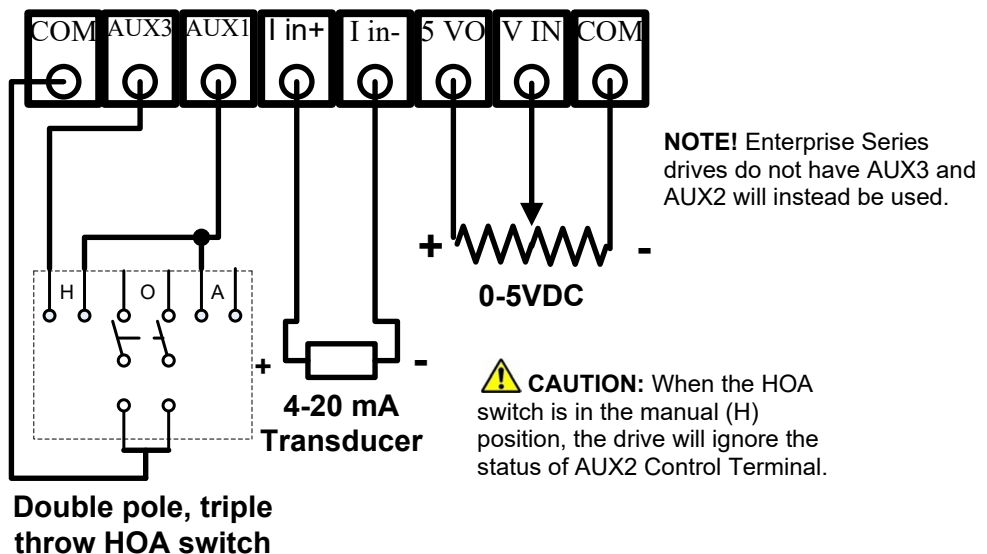
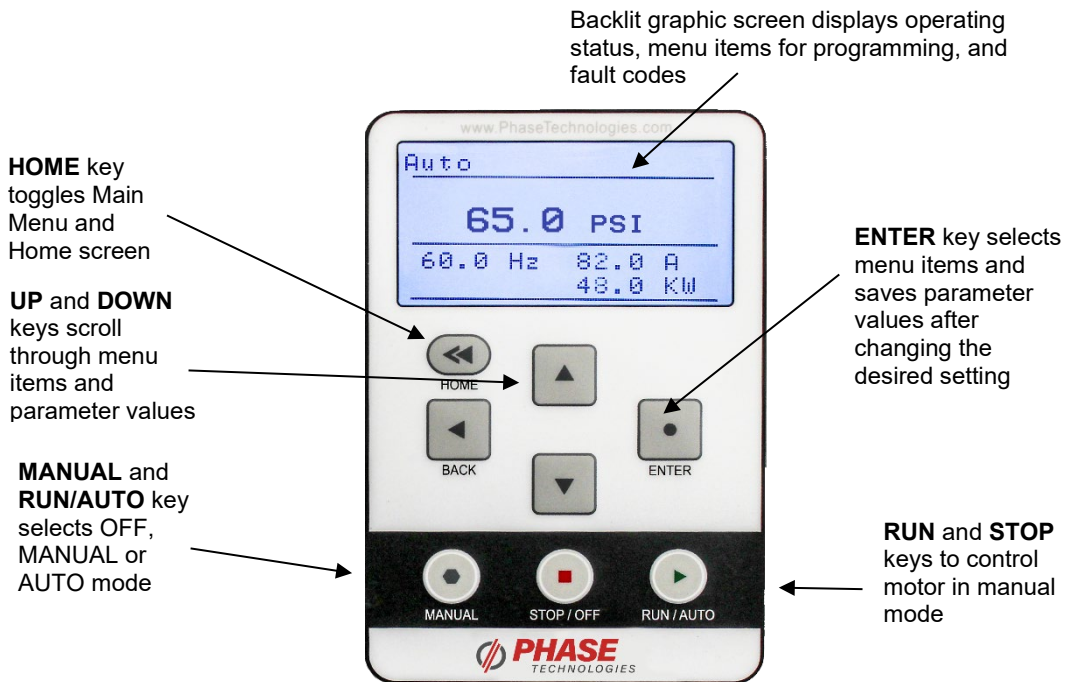

Figure 15 – Connections for Analog Constant Pressure with Potentiometer and HOA Switch
Figure 16 – Keypad and Graphic Display
2. Connect the potentiometer and 4-20 mA transducer as in **Figure 15** and **Figure 16**.